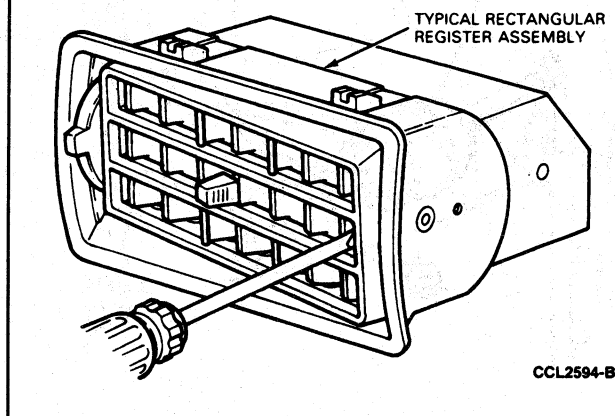

FIG. 48 Rectangular Louver Assembly Removal
1. Insert a flat-blade screwdriver under retaining tab and pry it toward louvers until retaining tab pivot clears hole in register opening (Fig. 48).
1. Remove louver assembly (Fig. 48).